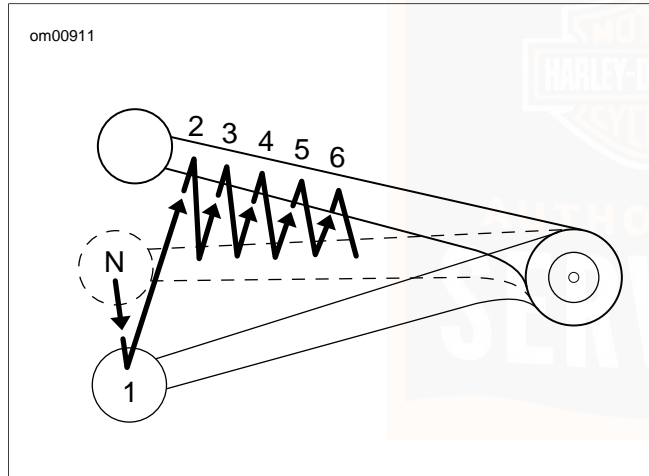

Figure 39. Shifting Sequence: Upshift
3. See Figure 39. Lift the gear shift lever up to the end of its travel and release.